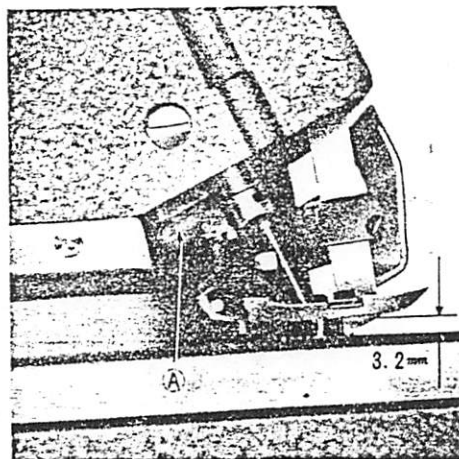
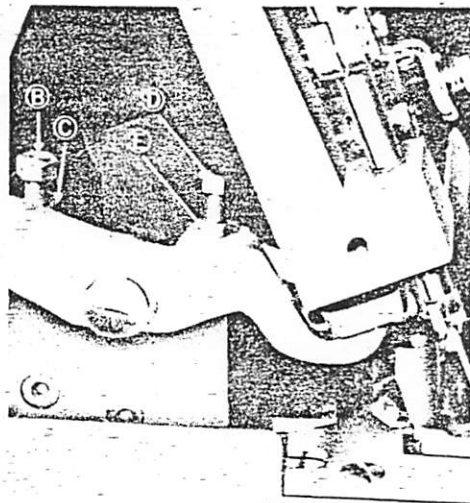
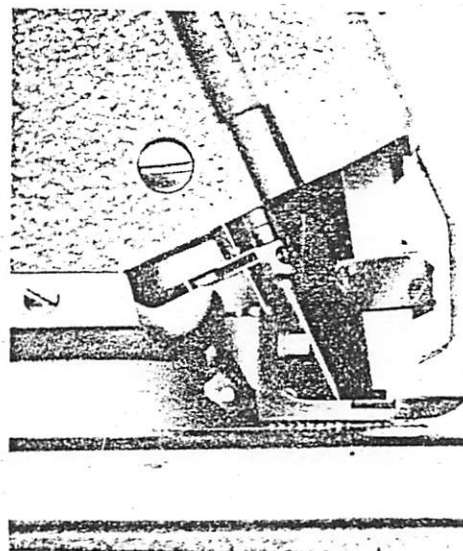

Fig. 41
Fig. 42
Fig. 43
When the presser foot lifter lever (A) (Fig. 41) is pulled down, the presser foot must stop at a level 3.2mm above the top surface of the needle plate. This adjustment can be made by loosening the nut (C) (Fig. 42) of the stopper (B) (Fig. 42) in the front
Next, release the presser foot lifter lever; and see that there is a clearance of 1mm between the tip of the presser foot lifter lever and the presser arm when the presser foot rests on the needle plate. (Fig. 43) Adjustment of this clearance can be made by loosening the nut (E) (Fig. 42) of the front stopper (D) (Fig. 42) for the presser foot lifter lever.